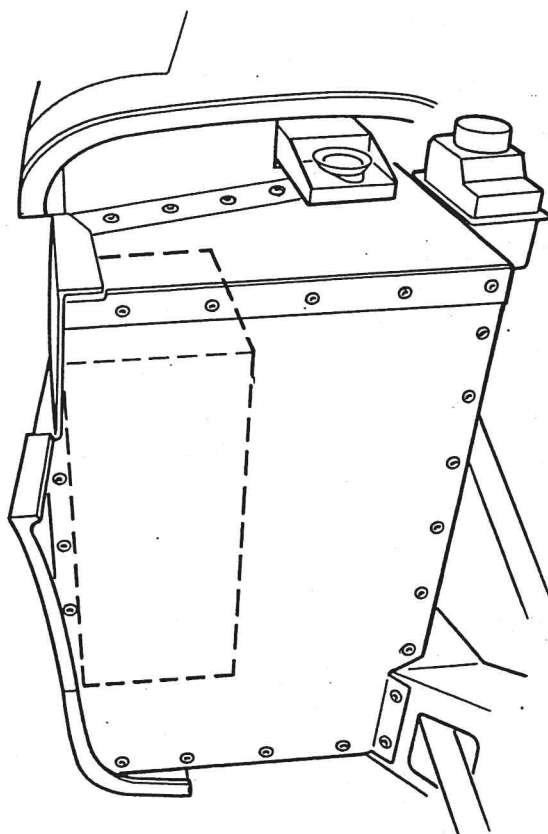

Fig. 3 Installation of Electrical Bay
1. Refer to Fig. 3. Remove the loosely fitted side panel.